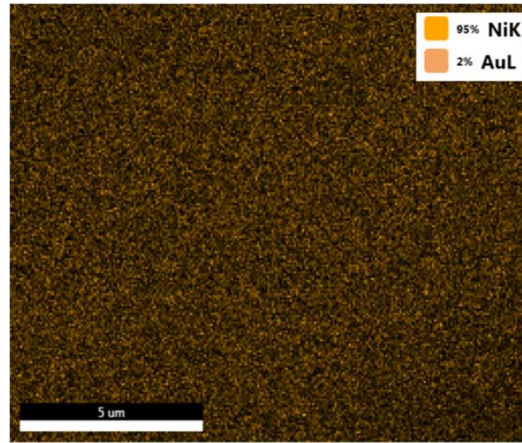

Fig. S5. EDX and the image of element mapping of the Au NF/Ni foam.
- Fig. S5. EDX and the image of element mapping of the Au NF/Ni foam.